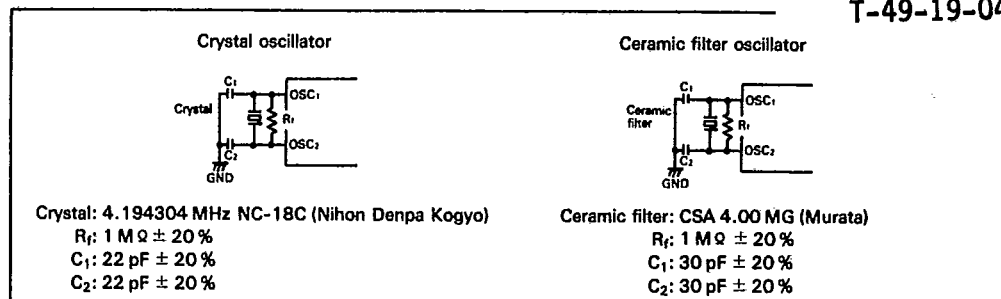

Figure 30. Oscillator Circuit
- Notes: 1. Oscillator stabilization time is the time until the oscillator stabilizes after V_{CC} reaches its minimum allowable voltage after power-on, or after RESET goes high. At power-on or STOP mode release, RESET must be kept high for at least t_{RC}. Since t_{RC} depends on the crystal or ceramic filter's circuit constant and stray capacitance, please get the manufacturer's advice when designing the RESET circuit. (See figure 30)